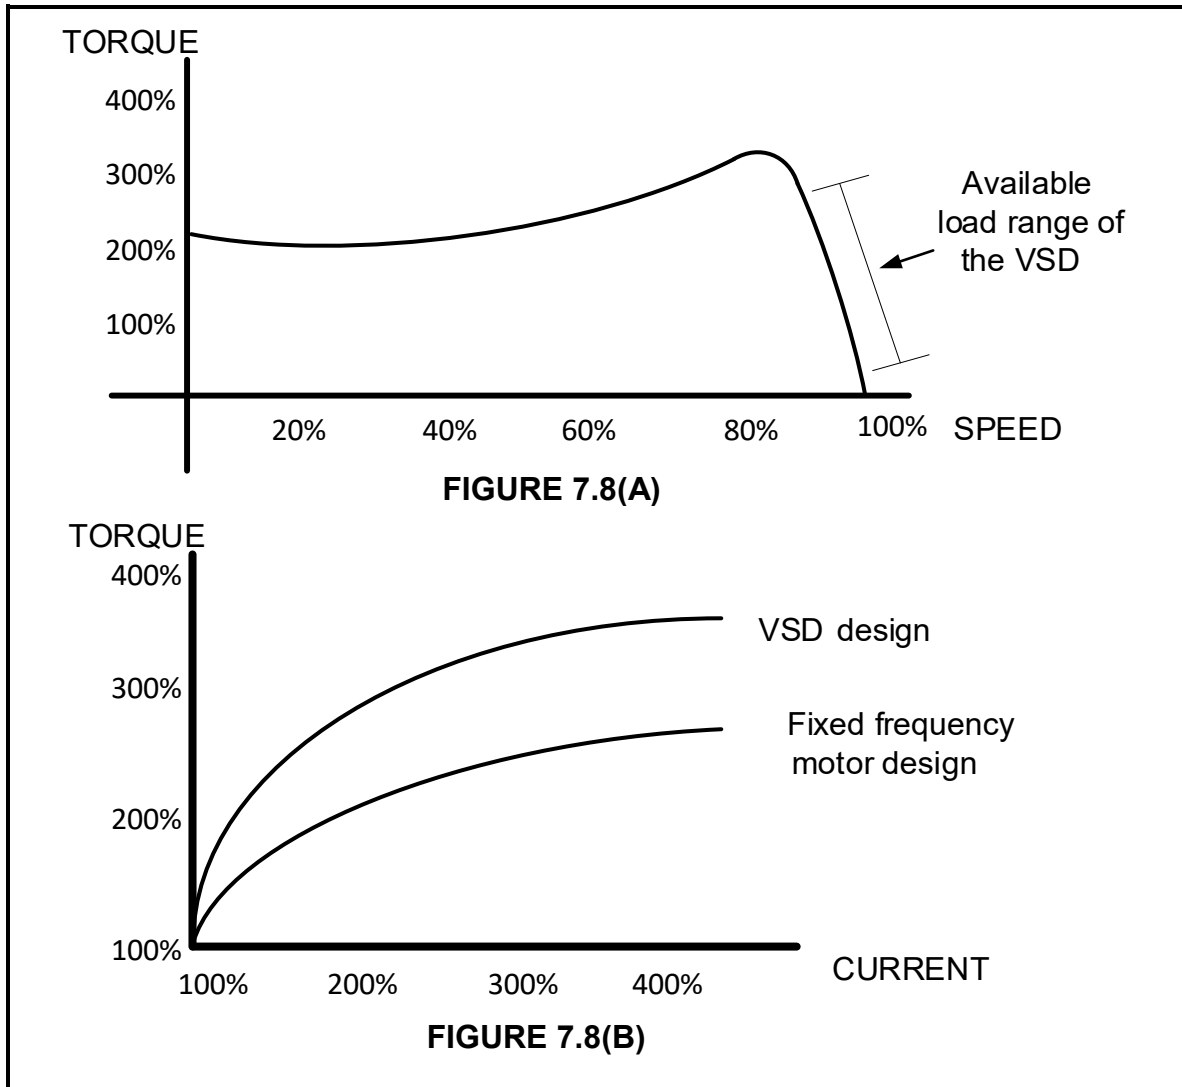

FIGURE 7.8: VSD TORQUE VERSUS SPEED AND TORQUE VERSUS CURRENT GRAPHS
7.8 FIGURE 7.8 below shows the characteristic curves of the VSD when it is used to control the speed of a three-phase induction motor. Study the characteristic curves and answer the questions that follow.
- 7.8.1 Compare the characteristics in FIGURE 7.8(B) above and state the improvement a VSD motor design has compared to a fixed frequency motor design. (2)
- 7.8.2 Refer to FIGURES 7.8(A) and 7.8(B) above and state TWO advantages for industries and manufacturers when using a VSD to control the speed of a motor. (2)